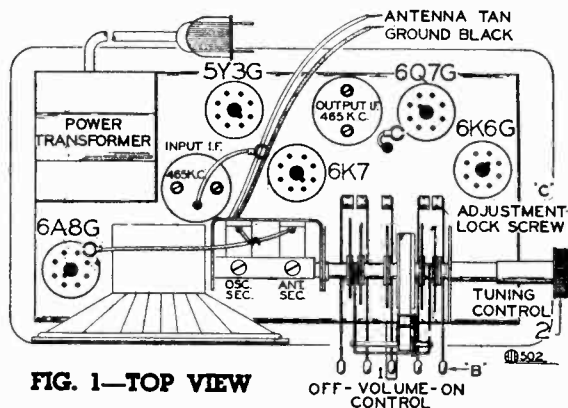

FIG. 1—TOP VIEW
These I.F. transformers have two adjustments, both of which are accessible from the top of chassis (see Fig. 1).
- With external oscillator set at 1720 kilocycles, adjust oscillator trimmer to resonance. This adjustment is on the top of rear section of variable gang condenser. (See Fig. 1).
Now rotate the tuning knob (No. 2) to the right (clockwise) as far as it will turn, and with a coin (half dollar), tighten the special locking screw ("C") in the center of the tuning knob, (See Fig. 1).